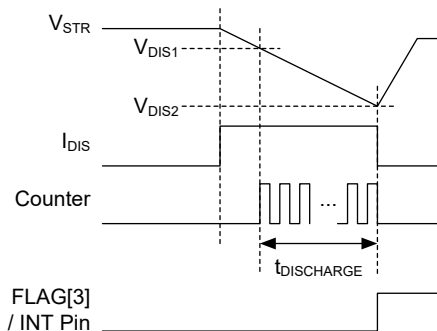

Figure 6. Measuring Capacitance with 500kHz Counter
7. A 500Hz counter measures the discharge time when STR voltage falls from V_{DIS1} to V_{DIS2} as shown in Figure 6 and then the I_{DIS} is turned off. V_{DIS1} and V_{DIS2} are set in the registers REG0x04 and REG0x05 with 24.9V and 21.45V default values, respectively. The 16-bit discharge time data ($t_{DISCHARGE}$) is stored in the registers REG0x07 and REG0x08.